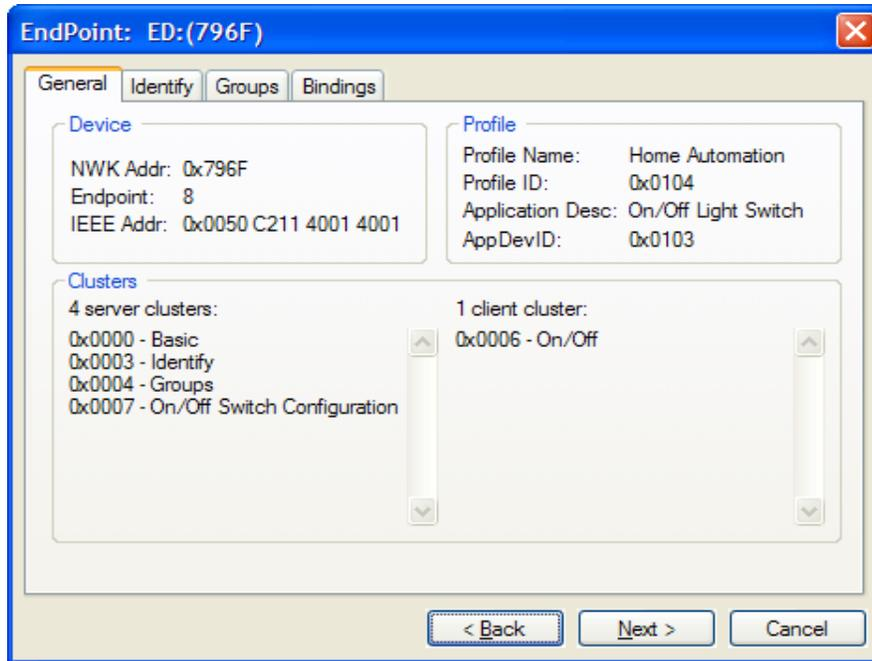

Figure 4-10. Endpoint Properties Window
3. Double-click the On/Off Switch icon in the ZeD Main Window. As shown in Figure 4-10, the EndPoint Properties window appears. This window contains various On/Off Switch Endpoint properties and allows users to review and set bindings for the current endpoint. See Chapter 7, “Endpoint Properties Window” for more information on this window.